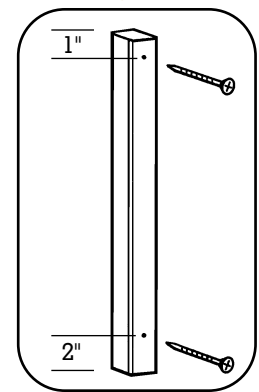

Fig. 34
- Mark on center 1" from the top and 2" from the bottom of each TimberTech Baluster for screw placement. **The screws must be installed 1" from the top and 2" from the bottom of each Baluster to ensure proper placement into the top and bottom TimberTech Side Rail (Fig. 34).**